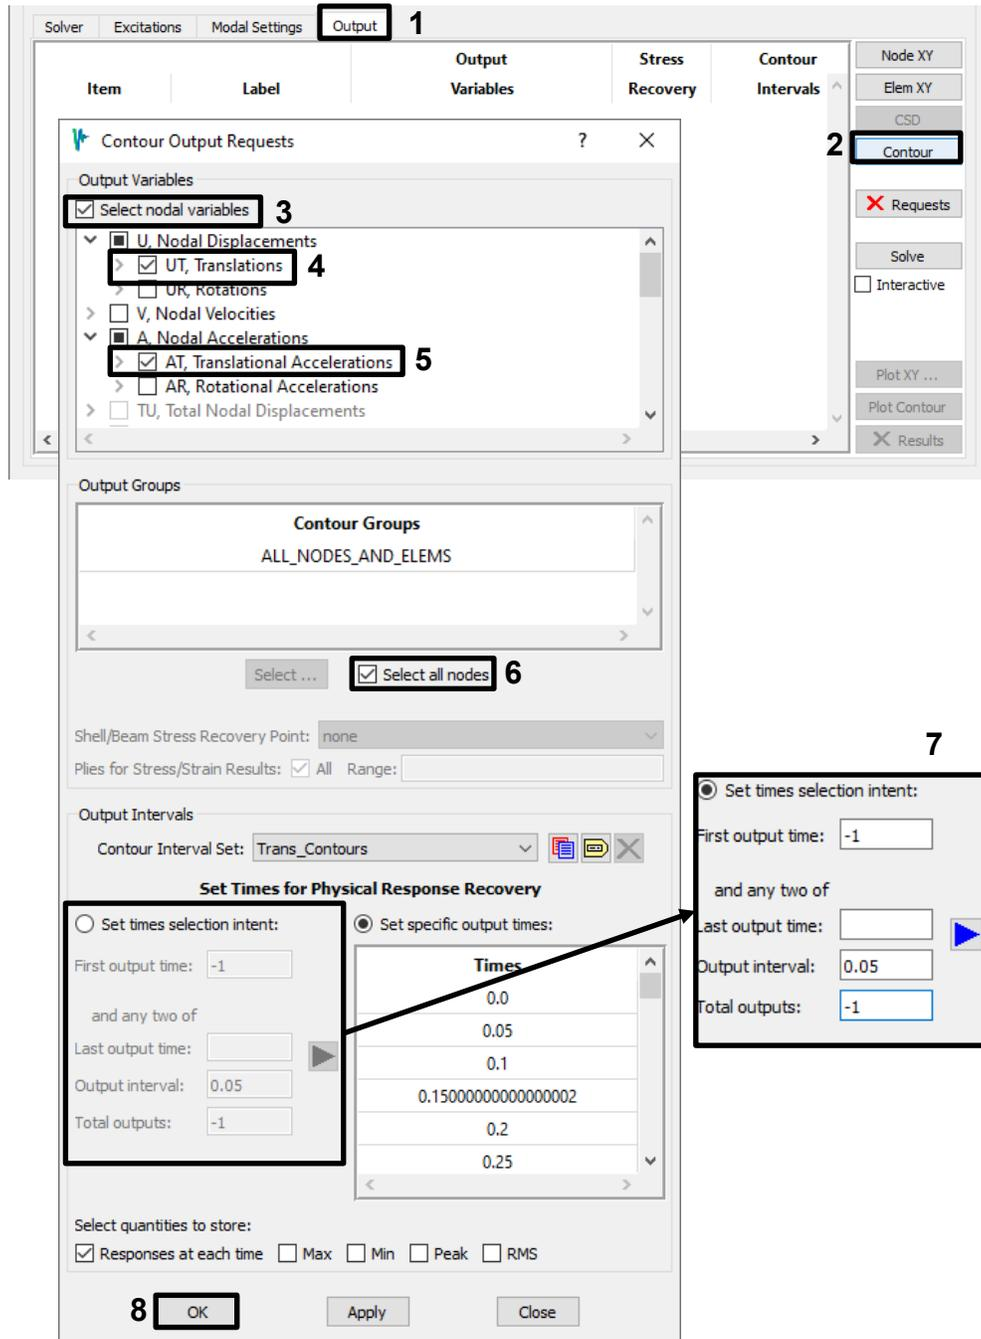

Figure 4-97. Request displacement and acceleration contours for all nodes at 0.05 second intervals.
- On the Output tab, create a contour request for translational displacements and accelerations (UT and AT) for all nodes in the model. Request output at 0.05 second intervals to span the defined start and end times of the event (Figure 4-97); for a 4.0 second time span, this will produce 81 output time steps. Note that Vibrata will change your definition to its preferred form (inset) when you click **Apply** or **OK**; this